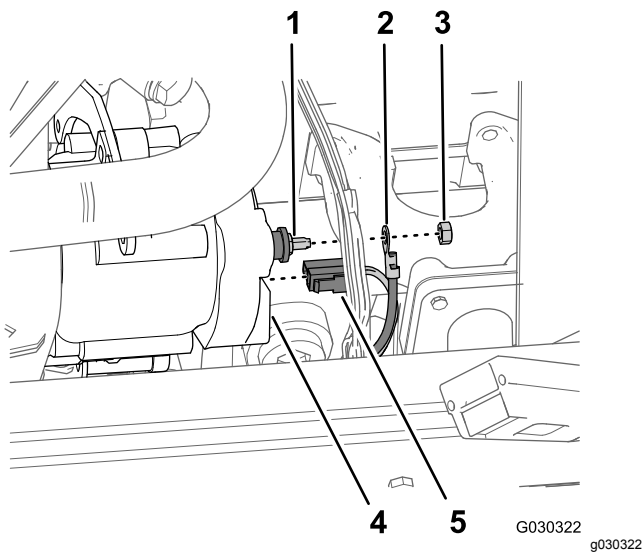

Figure 241
1. At the left side of the engine compartment, remove the nut (6 mm) that secures the ring terminal for the positive battery wire from the positive alternator post (Figure 241).
- At the back of the alternator, remove the 2-socket connector of the wire harness for the engine from the 2-blade terminals at the alternator (Figure 241).